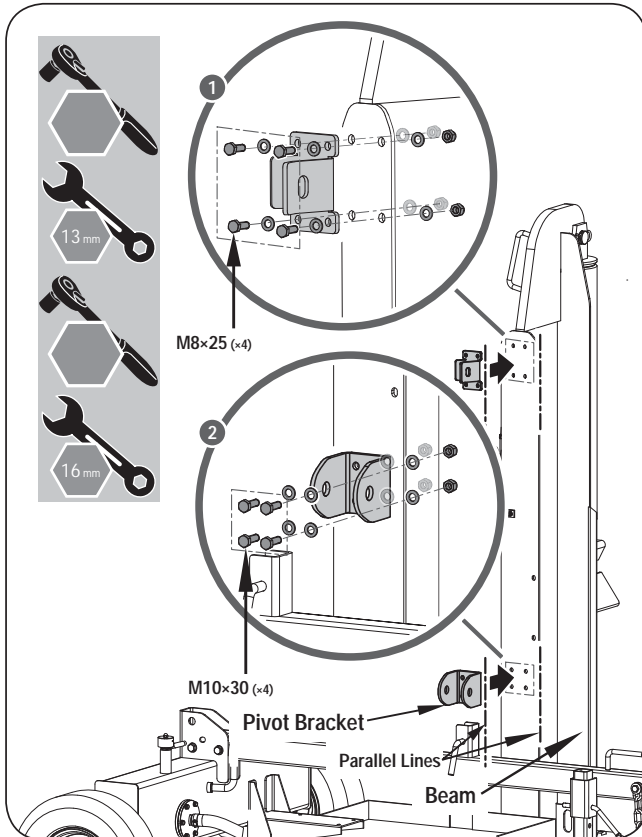

Figure 7
1. Install the beam lock bracket to the beam by using the M8x25 bolts, spring washers, and flat washers. (See *Figure 7, illustration 1.*)
2. Align the holes in the pivot bracket with the holes on the beam and insert and tighten bolts, spring washers, and flat washers. (See *Figure 7, illustration 2.*)